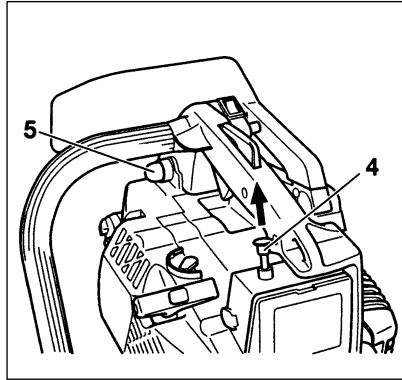

Fig. 2-3
1. Set ignition switch (1) to ON position.
* Push priming bulb (5) several times so that fuel flows through bulb into carburetor. (If so equipped)(Fig. 2-3)
3. Pull choke knob to choked position (4). (Fig.2-3)